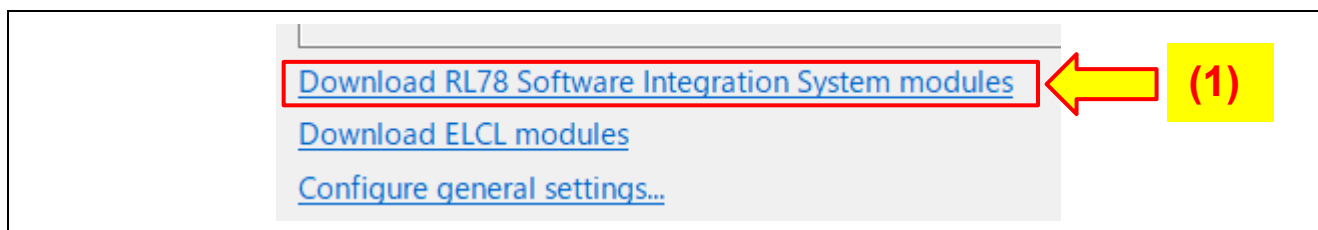
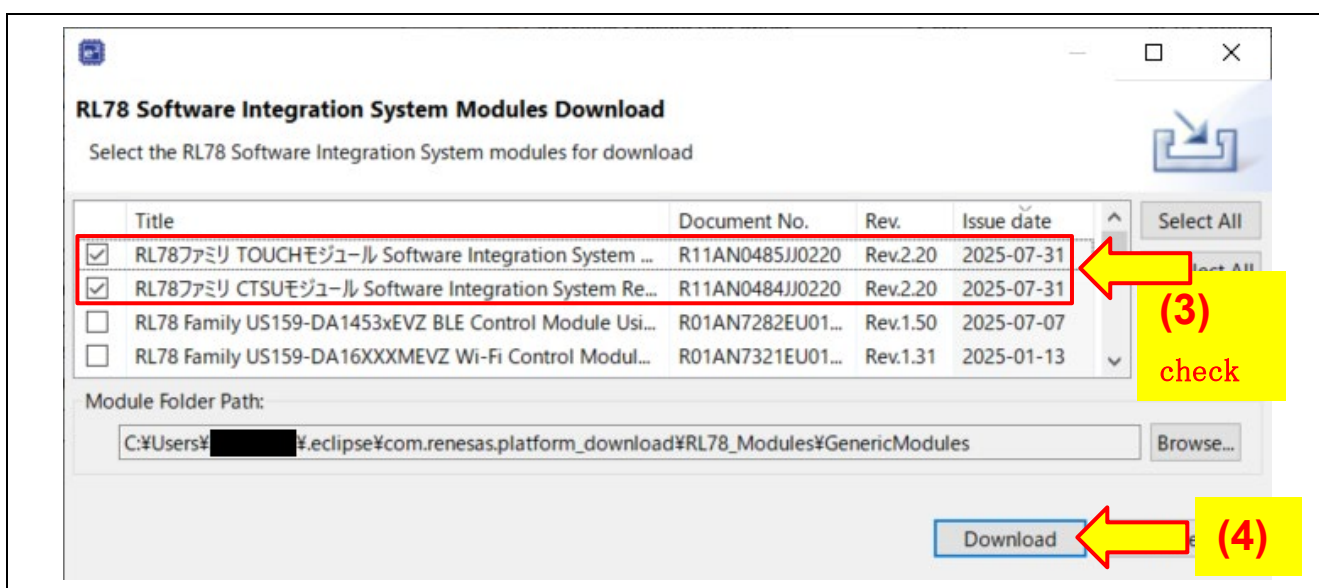

Figure 6-12 Download SIS Modules Link
Figure 6-14 Download SIS Modules
10. If you are using SIS (Software Integration System) modules for the first time, download the modules using steps (1) to (4) in Figure 6-12 to Figure 6-14 below. If they have already been installed, skip this step.